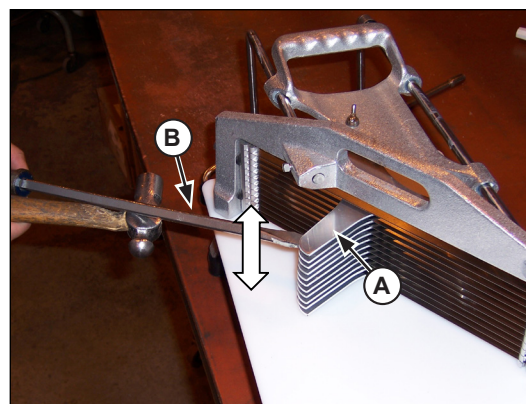

Figure 1. Pusher Head Adjustment Between the Blades.
1. Carefully insert a screwdriver (B) between the slots in the Pusher Head Assembly (A). Gently tap on the screwdriver (B) (up or down) to alter the location of the Pusher Head Fingers so the slide effortlessly through the blades. See Figure 1.